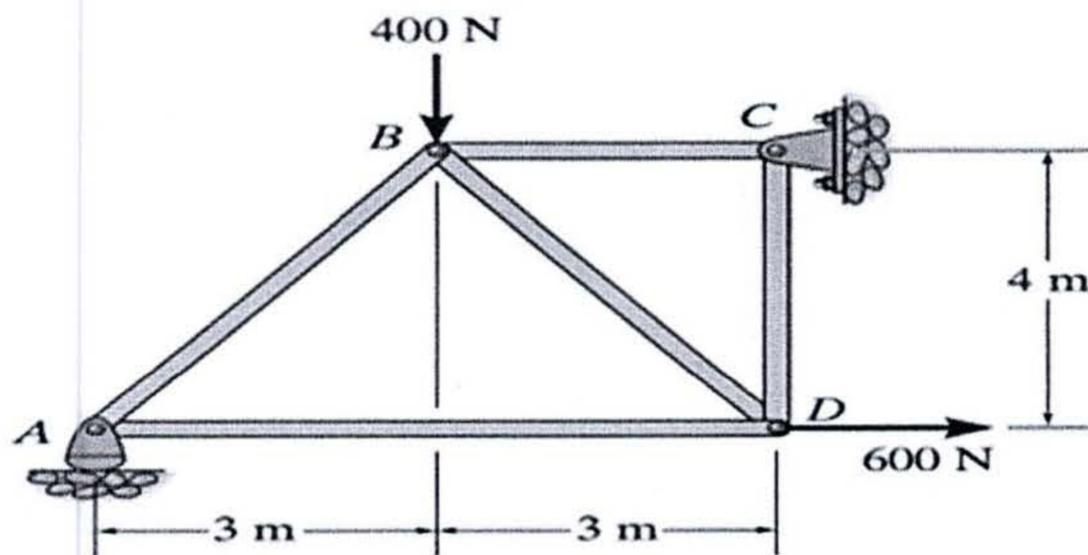

Figure Q2: Truss under loading.
- b) Using the method of joints, determine the force in each member of the truss shown in Figure Q2. Mention whether the members are in tension or compression. [10]